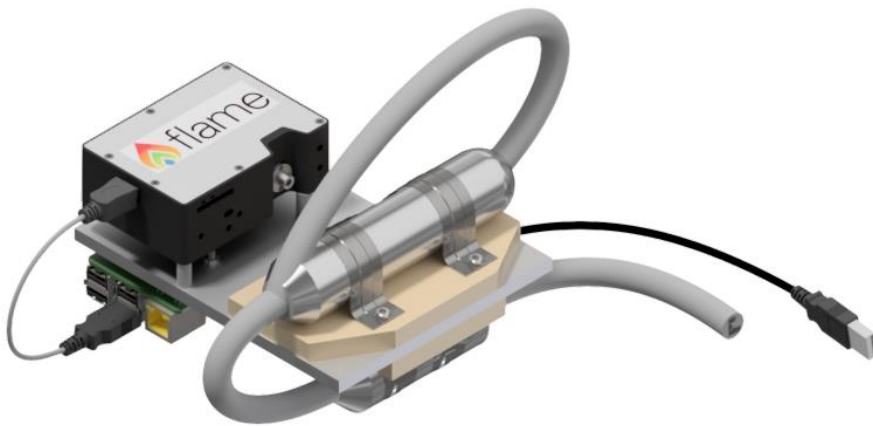

Figure 1: The Completed Spark Gap Device Assembly. The device shown is the laboratory model, for use in ground-based testing.
- Insert -92010A122 M3 12mm Screws into the VIPE Insulation Middle Part (Figure 1).
- Insert -92010A787 M3 14mm Screws into the VIPE Insulation Middle Part (Figure 1).